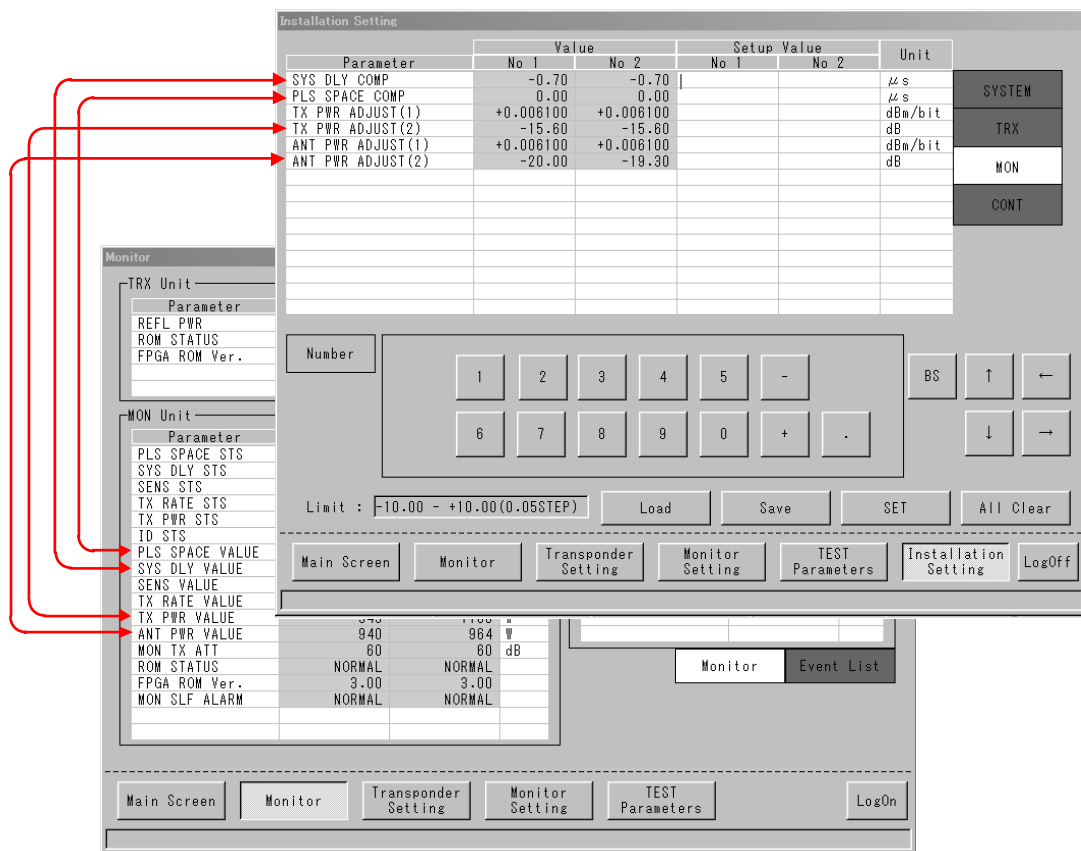

Figure 1.3.7.4 Monitor and Initial Setting screen
- (1) As shown in the figure below, you can adjust the [Monitor] screen measurement value and [Installation Setting] MON each adjust parameter of the tab. (see Figure 1.3.7.4)